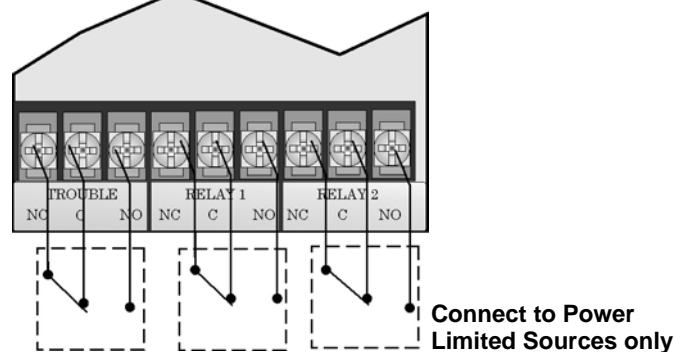

Figure 4-46 Location of Conventional Relay Circuits
1. Wire Relay 1 and/or Relay 2 as needed for your application. See Figure 4-46 for the location of the relay terminals.